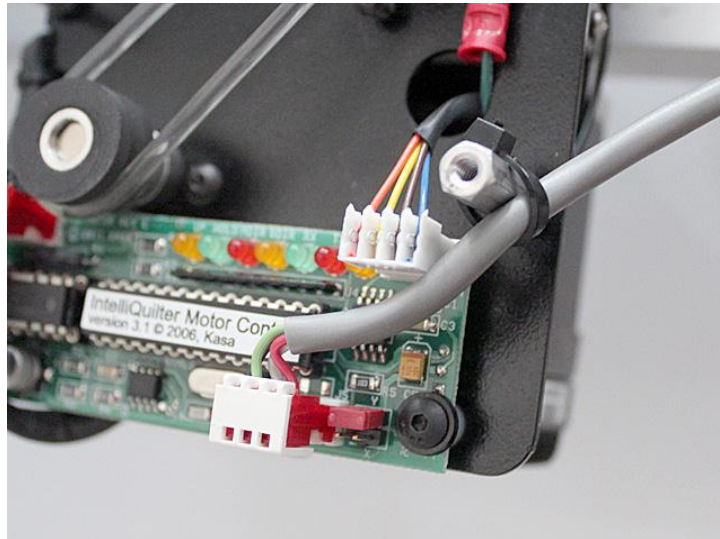

Fig. 19
- Run the Y-motor cable from the back on the side of the lower arm, using 2-3 adhesive clamps with their opening facing up. Plug in the connector. Tie the cable to the post as Fig. 19 shows.
- Run the X-motor cable from the back inside of the left carriage rail, using 2-3 adhesive clamps with their opening facing up. Plug in the X-motor cable. Tie the cable to the post as shown on Fig. 19.